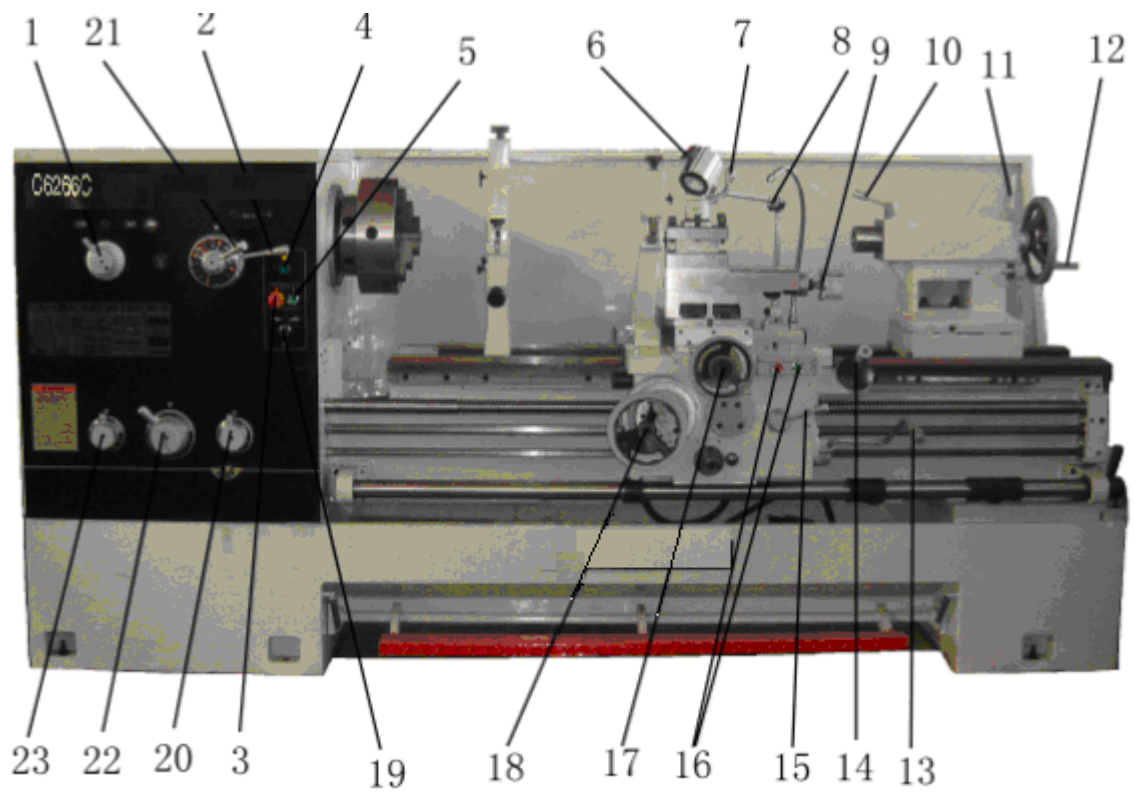

Fig 5 Diagram of operation system
5.1 All controls on the lathe are illustrated in Fig 5.
Operations of other controls are shown in Fig.5.